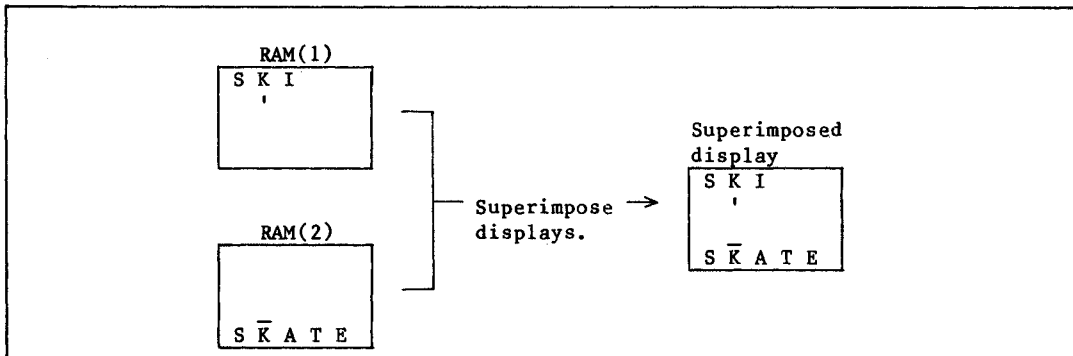

Figure 12-14 Example of the Superimposition of Character Displays
Here the 8-bit output data of the C.G.ROM corresponding to the character codes in the RAM(1) and RAM(2) are ORed. Then the ORed 8-bit output data will be displayed. Figure 12-14 shows an example of the superimposition of character displays.